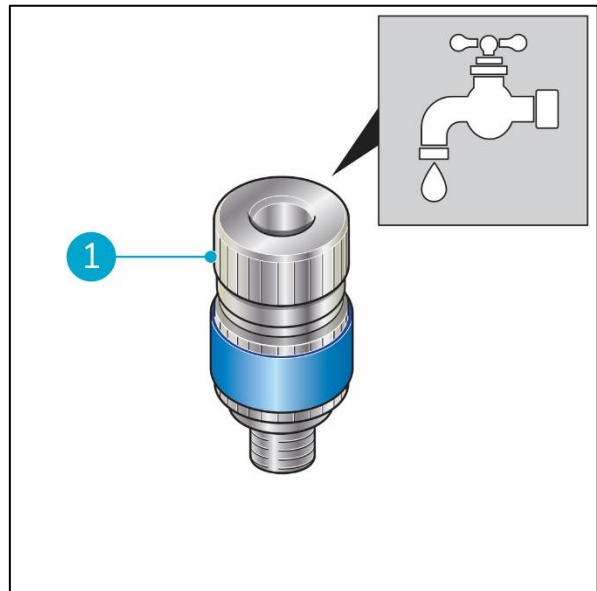

Figure 14
2. Flush the spray nozzle (Figure 14, pos 1) with tap water.